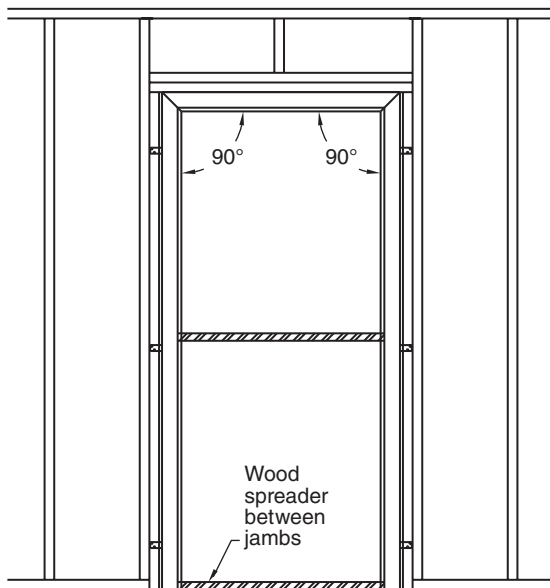

Figure 25 – Wood stud wall construction
10.4.1 Install wood spreaders at bottom and mid-height. Square and level frame. Shim jambs if necessary (see Figure 25).